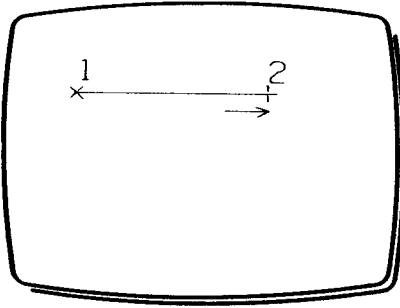

Fig 1
- 2 Start the figure by moving XY to position the dynamic cursor at (1) in Fig 1.
- 4 Move XY to position the dynamic cursor at (2) in Fig 1.